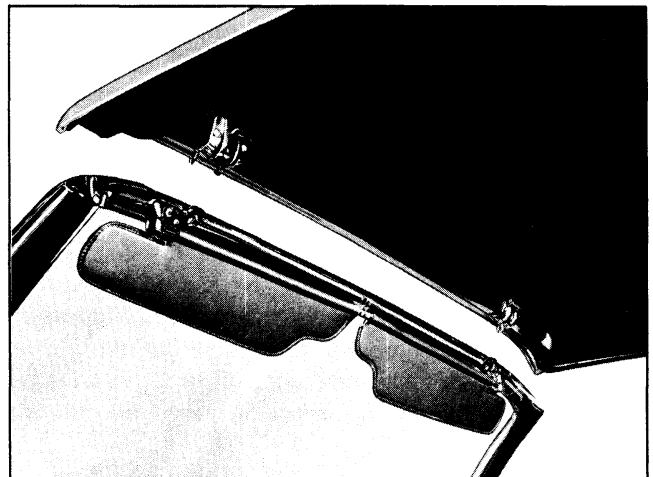

Fig. 22-4 Disengaging Top From Header
3. Raise front of top (Fig. 22-4) to disengage front roof rail from windshield header.